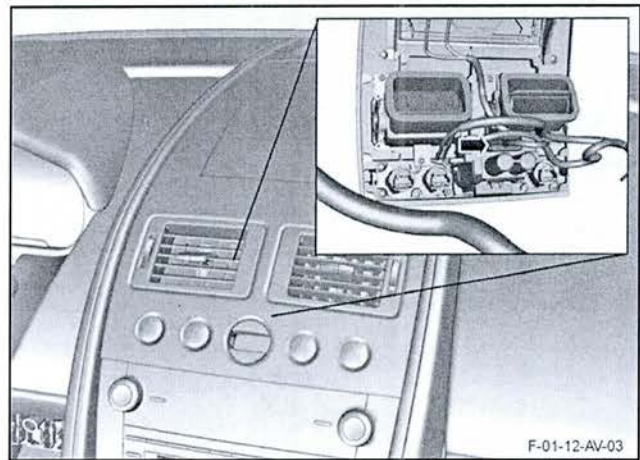

Figure 5
6. Disconnect the electrical connector from the ignition switch module (refer to Figure 5).